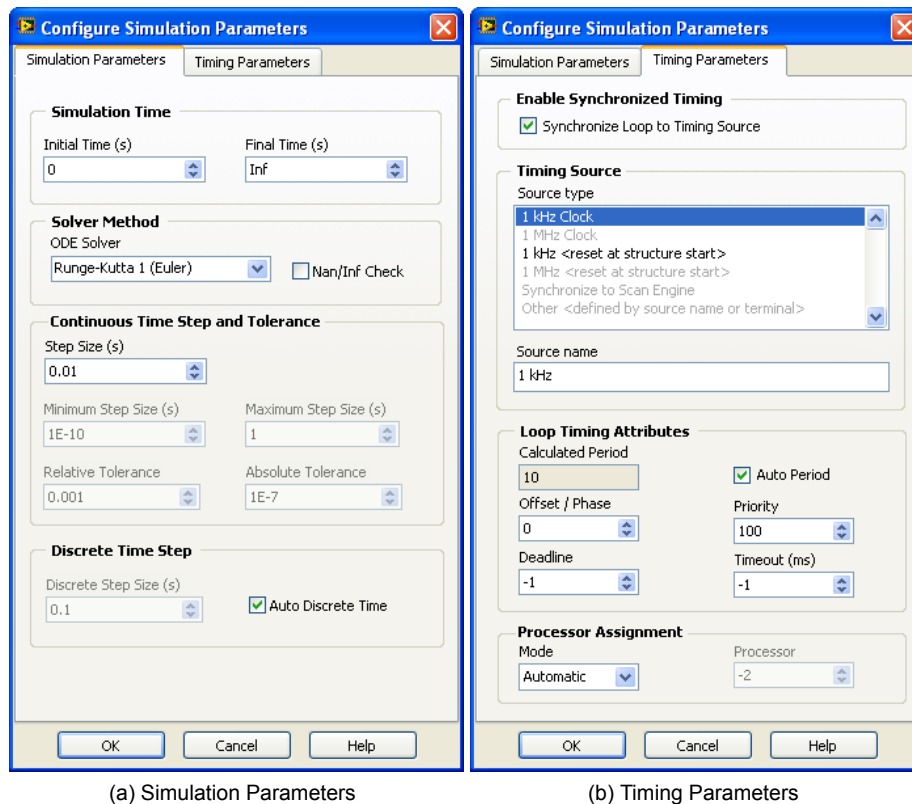

Figure 1.5: Simulation Loop Parameters Dialog
4. Double-click on the Simulation loop input node (or right-click on the border and select *Configure Simulation Parameters*) to access the *Simulation Parameters* box shown in Figure 1.5.
5. As shown in Figure 1.5, in the *Simulation Parameters* tab set the following:
6. As shown in Figure 1.5, in the *Timing Parameters* tab set the following: